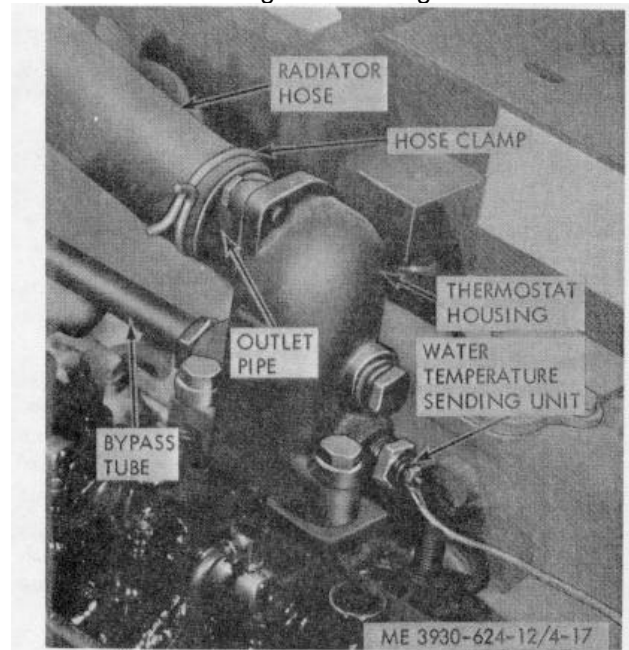

Figure 4-17. Thermostat location.
(d) Remove the bypass hose from the elbow on the thermostat housing and water pump. Install a plug in the elbow on the thermostat housing. Refer to figure 4-17.
(1) Raise the driver's seat and remove the side panels.
(2) Drain the radiator.
(3) Remove two capscrews securing the outlet pipe from the thermostat housing. Remove thermostat from housing. Refer to figure 4-17.
(5) Loosen the nut at each end of the coolant bypass tube and remove the tube, refer to figure 4-17.